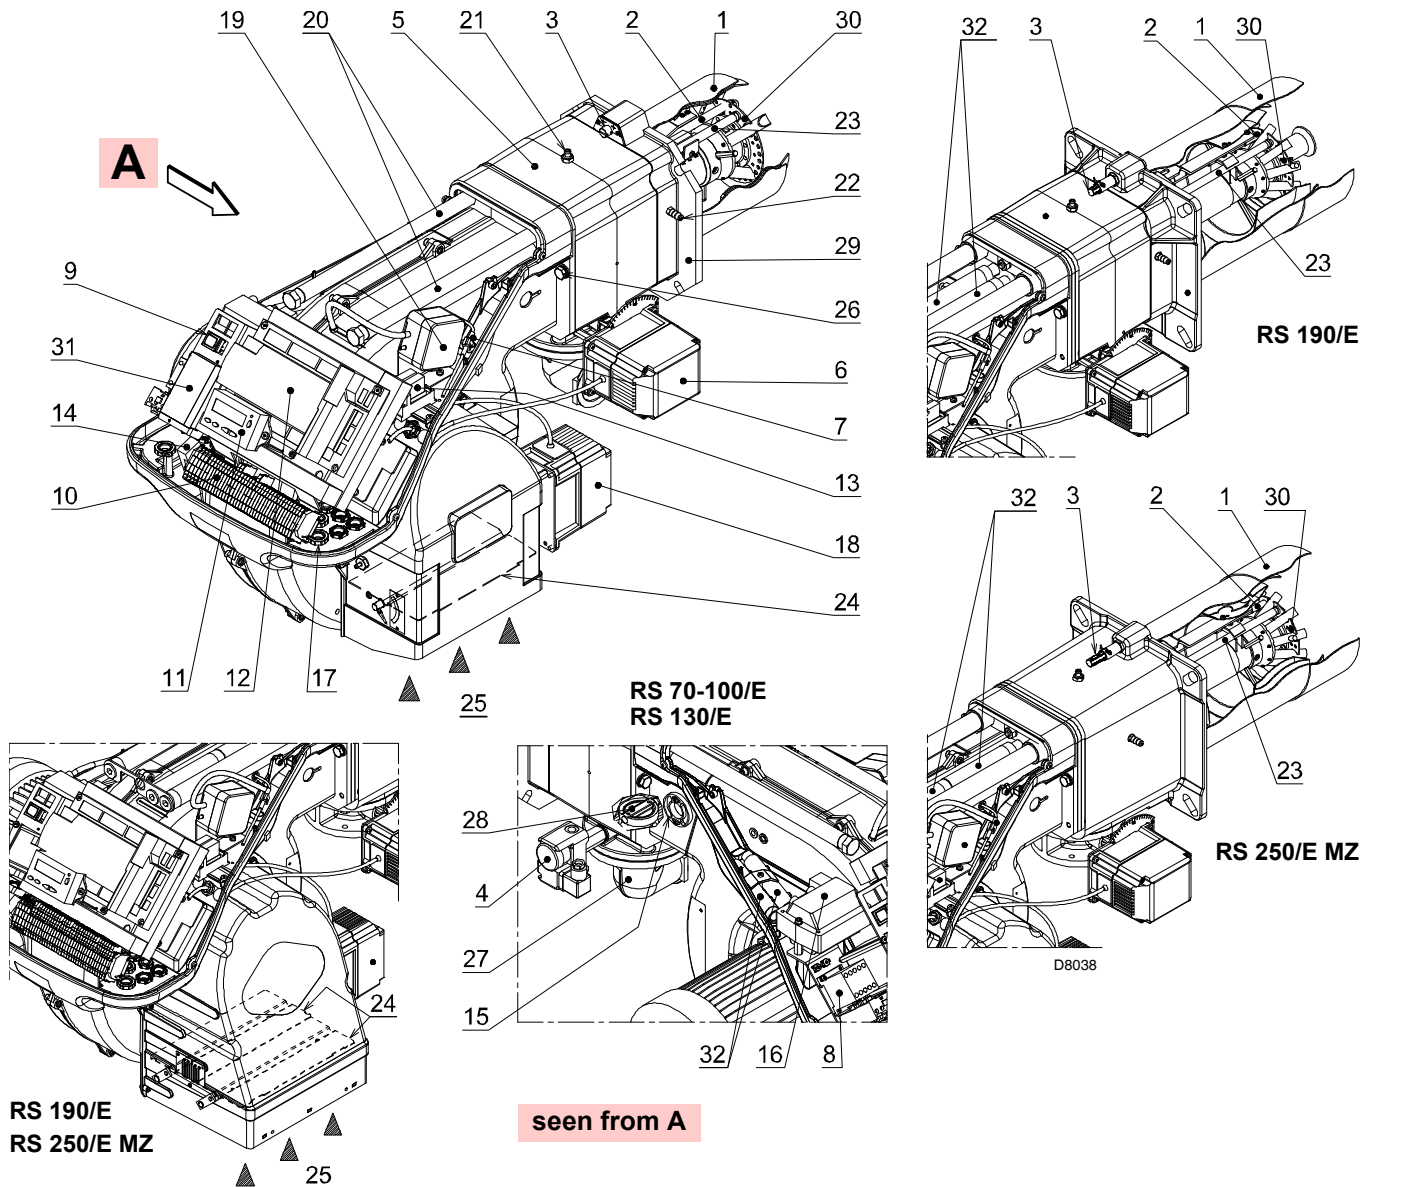

Fig. 5
(2) Gas pressure on the pipe coupling test point 21 (Fig. 5) with zero pressure in the combustion chamber and at maximum burner output.